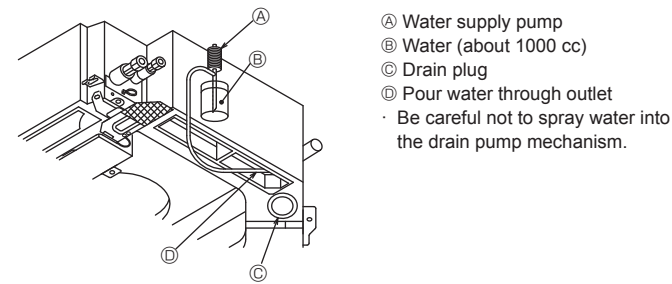

Fig. 6-7
6.3. Check of drainage (Fig. 6-7)